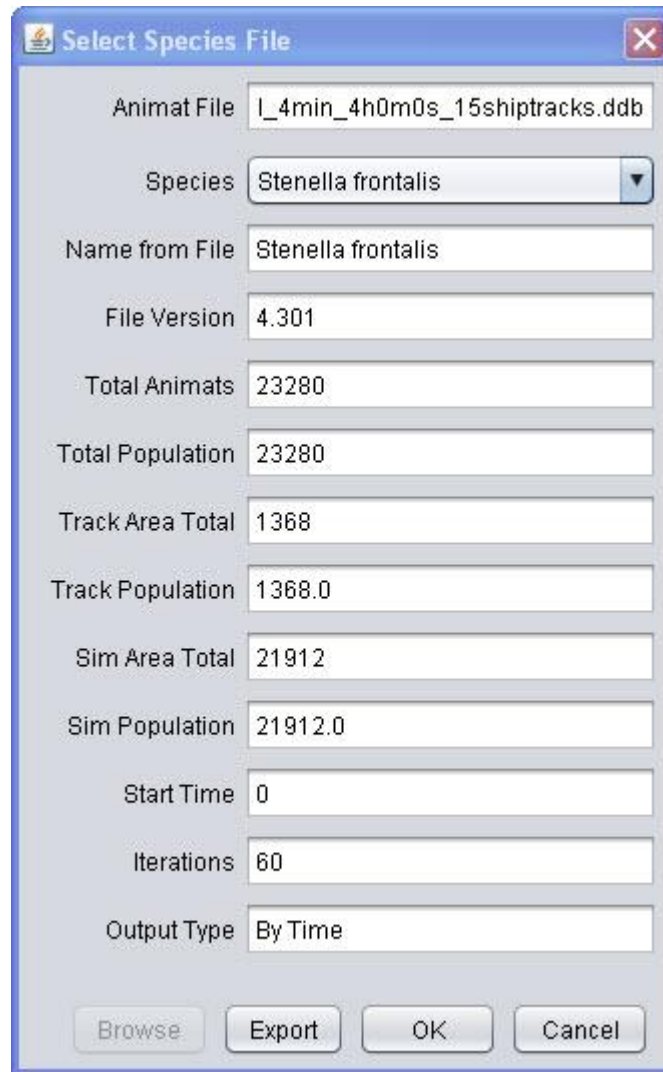

Figure 4-17 Select Species File window
2. Select **Query Species** from the **Tools** dropdown menu. Upon doing so, the Select Species File window shown in Figure 4-17 will be displayed, which provides information on the species (animat) file.